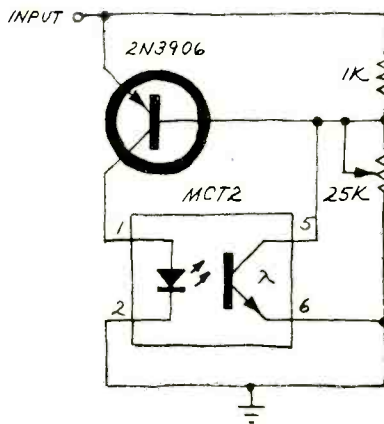

Fig. 3. This optoisolator circuit exhibits negative resistance.
**Negative-Resistance Circuit.** A circuit you won't find in anyone's spec sheet is the unusual optoisolator negative-resistance configuration shown in Fig. 3. This novel circuit was dreamed up by Japanese engineers Haruo Takahashi and Yasuo Kitahama and first published in the April 1974 *IEEE Journal of Solid State Circuits* ("An Optronic Negative Resistance